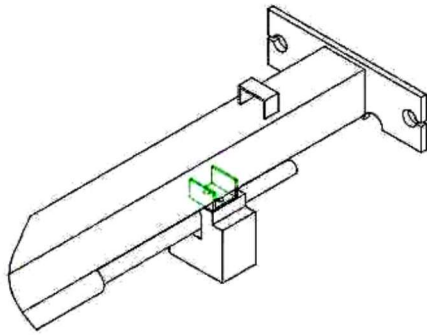

Fig. 6a
7. Overhead Limit Switch & Overhead Beam (Figs. 6a, 6b & 6c)
- A. Install overhead limit switch assembly to overhead beam, using 2ea 1/4"-20 Bolt & Lock Nuts as shown in figs 6a, 6b & 6c.